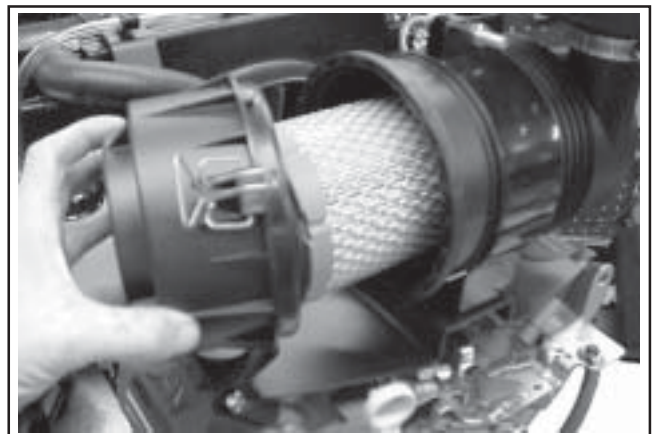

Figure 4-4. Removing End Cap.
1. Unhook the two retaining clips and remove the end cap from the air cleaner housing. See Figure 4-4.